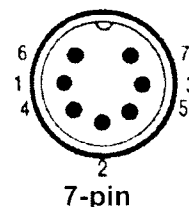

Figure 1
5. **Test the controls:** Disconnect the 7 pin socket N°5 from the power unit. See appendix 1, page 2-4. Measure the resistance between terminals 1 and 5 (see figure 1) with an ohmmeter (see appendix 2).